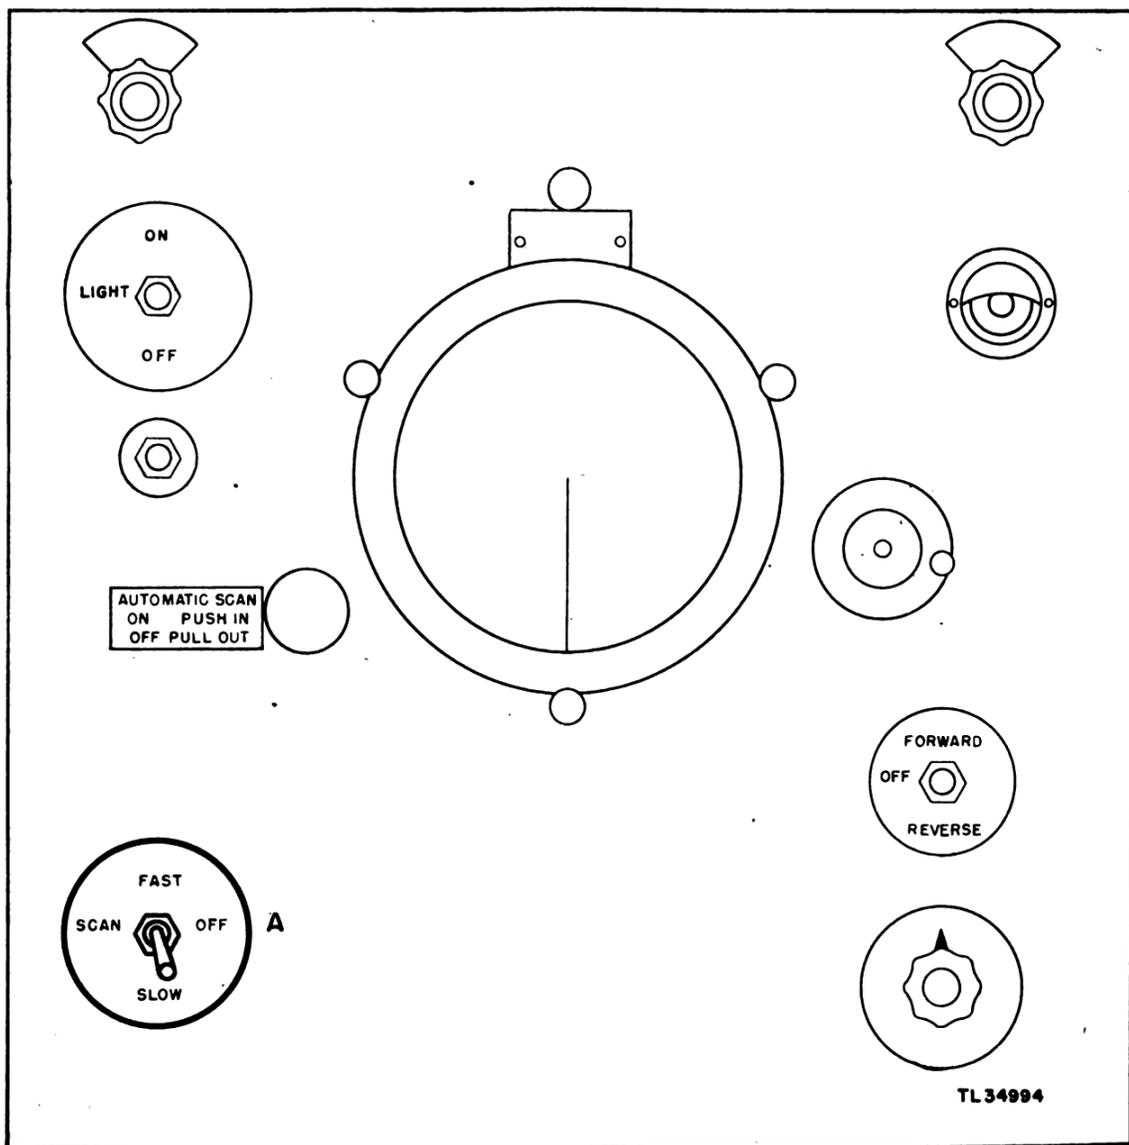

Figure 43. Starting procedure, step No. 6.
f. Turn the AUTOMATIC SCAN switch (A, fig. 43) to SLOW. The antenna assembly will begin to rotate now, and the PPI-scope sweep will rotate in unison with it.